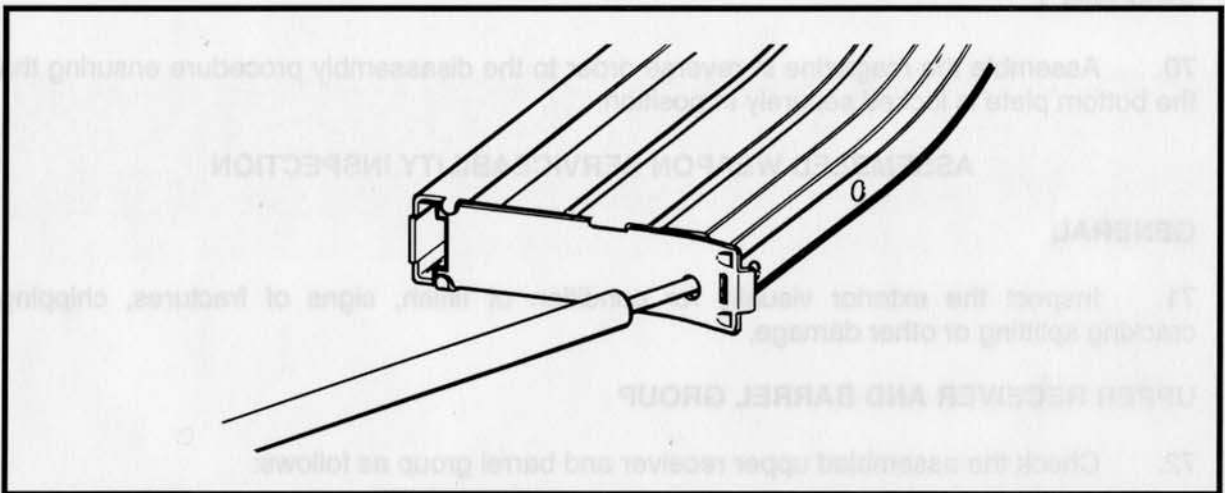

Figure 3-2-58 Lifting the Magazine Bottom Plate
- a. Insert a suitable punch into the hole in the magazine bottom plate and lift the end until the lugs clear the magazine body. See Figure 3-2-58; and